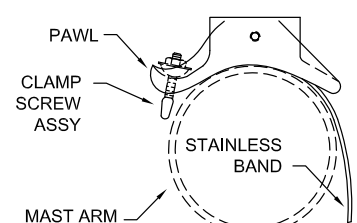

Figure 1
1. Place Astro-Mini-Brac with bands on mast arm as shown in Figure 1. Place screw assembly in pawl of Bracket Body, as shown in Figure 1, allowing three to five (3-5) threads to show above nut (Figure D).